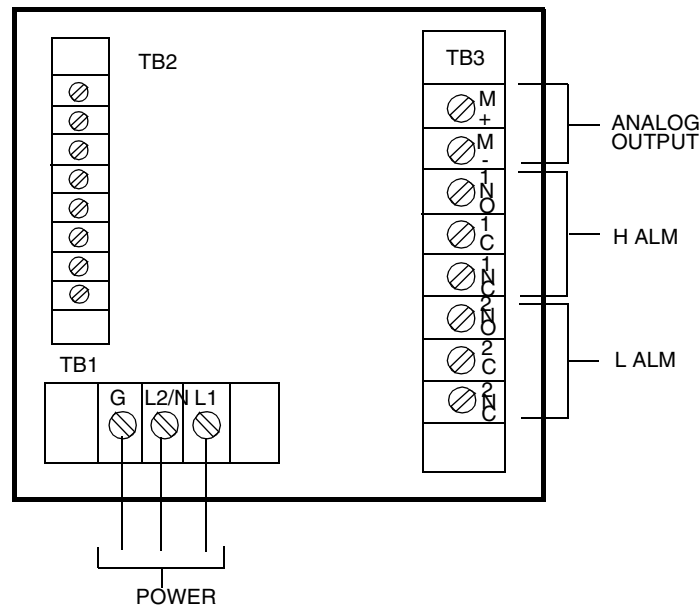

Figure 10. Plastic Enclosure Rear Panel Wiring for Power, Output, and Alarms
2. Connect H and L alarm wires to TB3 as shown in Figure 10.
3. Connect wires from external circuit for Analyzer measurement output to terminals TB3-1(+) and TB3-2(-). Refer to Figure 10.
6. Connect power wires to terminal block TB1 as shown in Figure 10.